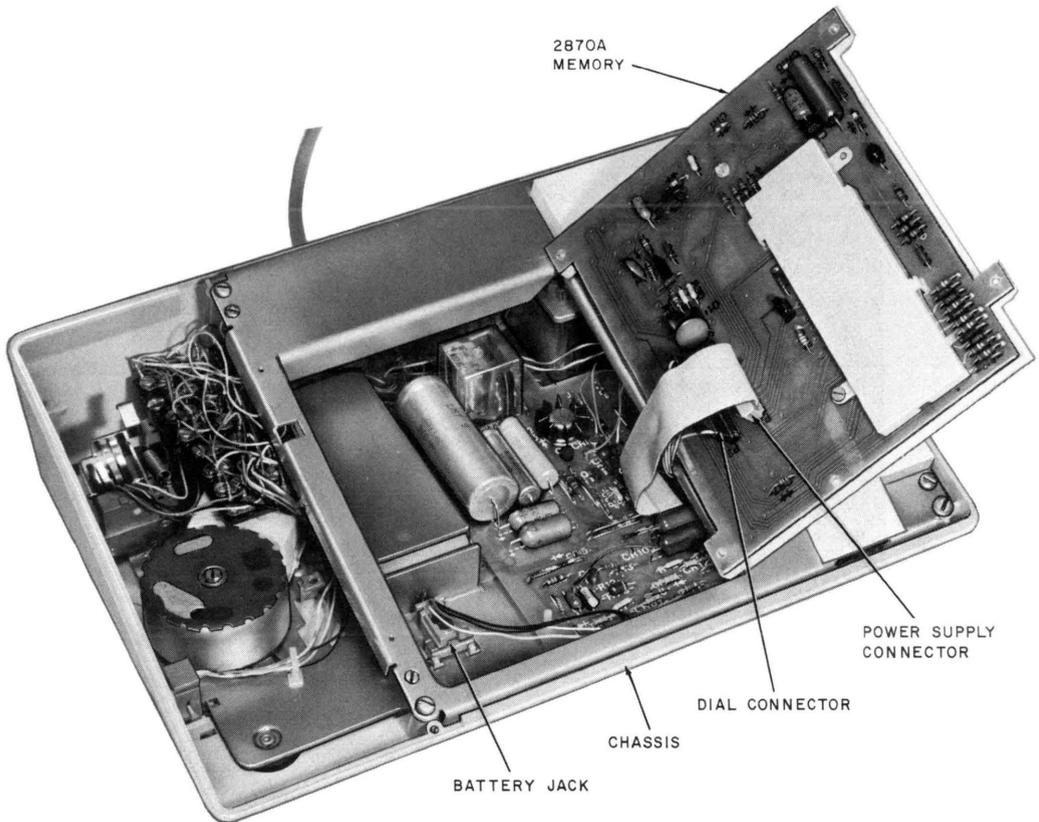

Fig. 5—Telephone Set, Internal View, Overall
- Battery jack (Fig. 5)
- (3) Rotate the left edge of the Memory upward as shown in Fig. 5.
- (4) Disengage the two connectors by pulling them perpendicular to the board.
- (5) Replace the Memory by engaging the dial connector first. The dial connectors are keyed, one position is filled and should fit over the vacant position in the row of pins. The gray power supply cable should not be twisted. It should form a loop as shown in Fig. 5 when connected to the board.
- (6) Reassemble set.
- (7) Test per 3.06.